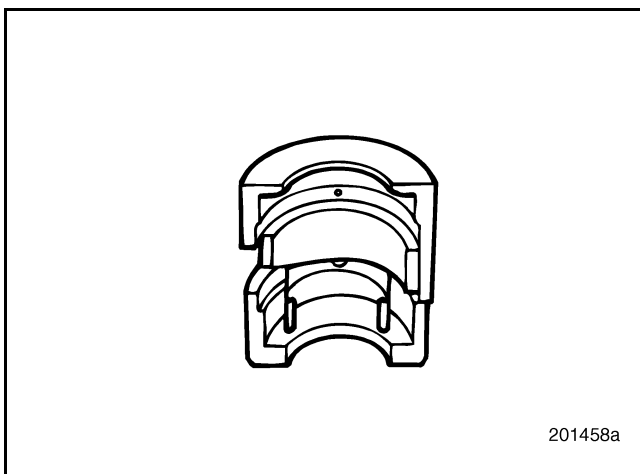

Figure 350 — Camshaft Installation Guide
3. Install the camshaft installation guide over the large flat of the injector lobe, between the last two cam journals (journals at the back of shaft). Refer to Figure 350.